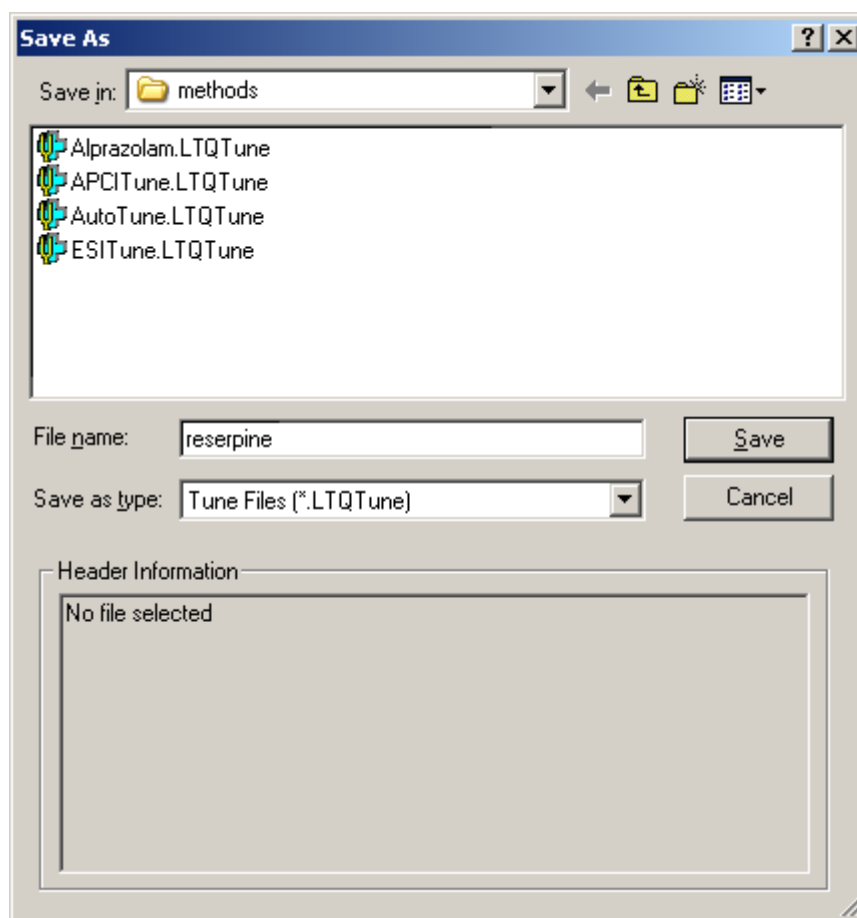

Figure 4-7. Save As dialog box, showing files in the folder C:\Xcalibur\methods
1. Choose **File > Save As** to display the Save As dialog box. See Figure 4-7.